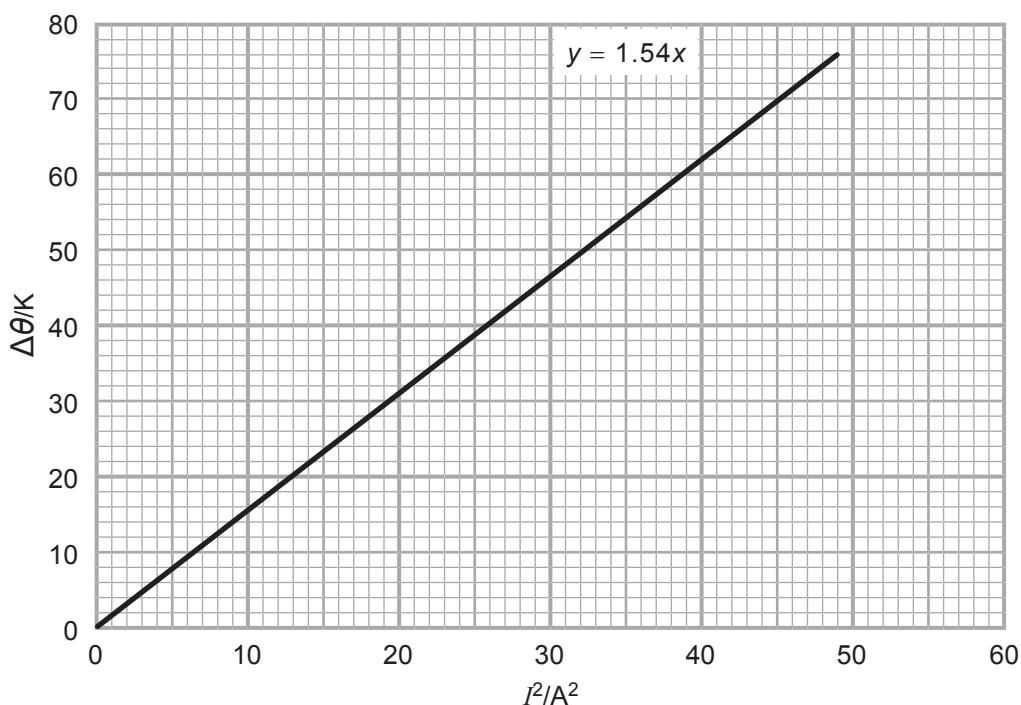

Fig. 3.1
**Fig. 3.1** is a graph of the experimental results for the temperature change,  $\Delta\theta$ , in a sample of water against the square of the current,  $I^2$ , through a constantan heating coil of wire immersed in the water. The software package used to draw the graph has included the equation for the trend line.
- (a) (i) Does the graph in **Fig. 3.1** verify the Joule Law of Heating? Explain your answer.
- (b) In the space below, draw a fully labelled diagram of an experimental arrangement that would facilitate the taking of results that would allow a graph similar to that shown in **Fig. 3.1** to be drawn. Remember to include any measuring instruments required.
- (c) (i) Outline how the experiment should be conducted in order to obtain the data required to draw a graph similar to that given in Fig. 3.1.